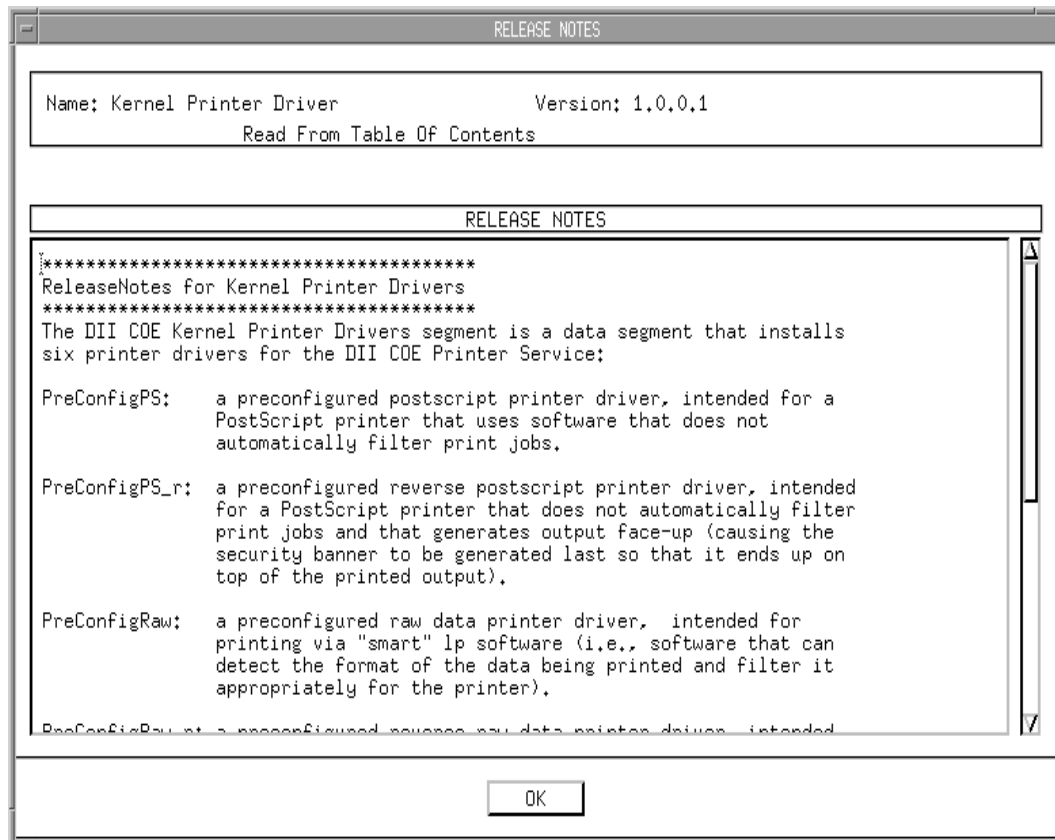

Figure 4. RELEASE NOTES Window
STEP 8: View Release Notes for the segment. Click on the Release Notes button in the Select Software To Install panel to display release notes for the Kernel Printer Driver Version 1.0.0.1. Figure 4 shows a sample RELEASE NOTES window.